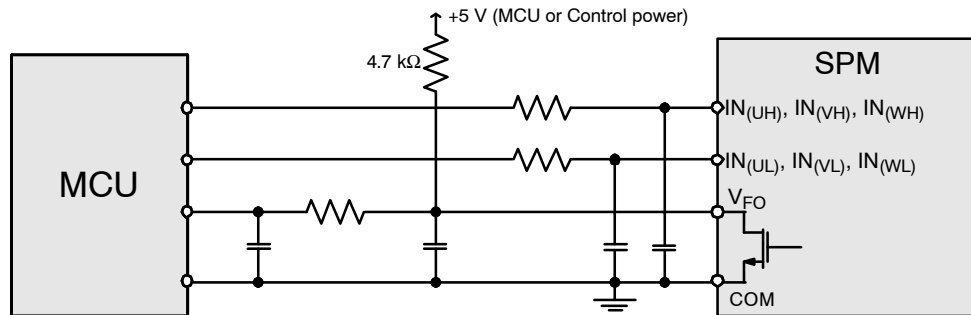

Figure 13. Recommended MCU I/O Interface Circuit
16. V_{FO} output is an open-drain type. This signal line should be pulled up to the positive side of the MCU or control power supply with a resistor that makes I_{FO} up to 2 mA. Please refer to Figure 13.